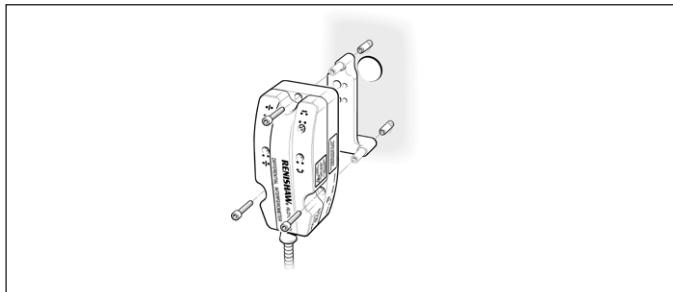

Figure 45 – Alignment aid
2. Fit the alignment aid between the chamber and the DI head, as shown in Figure 45, using the three M3 x 25 screws provided in the alignment aid kit and tighten to 0.6 Nm.